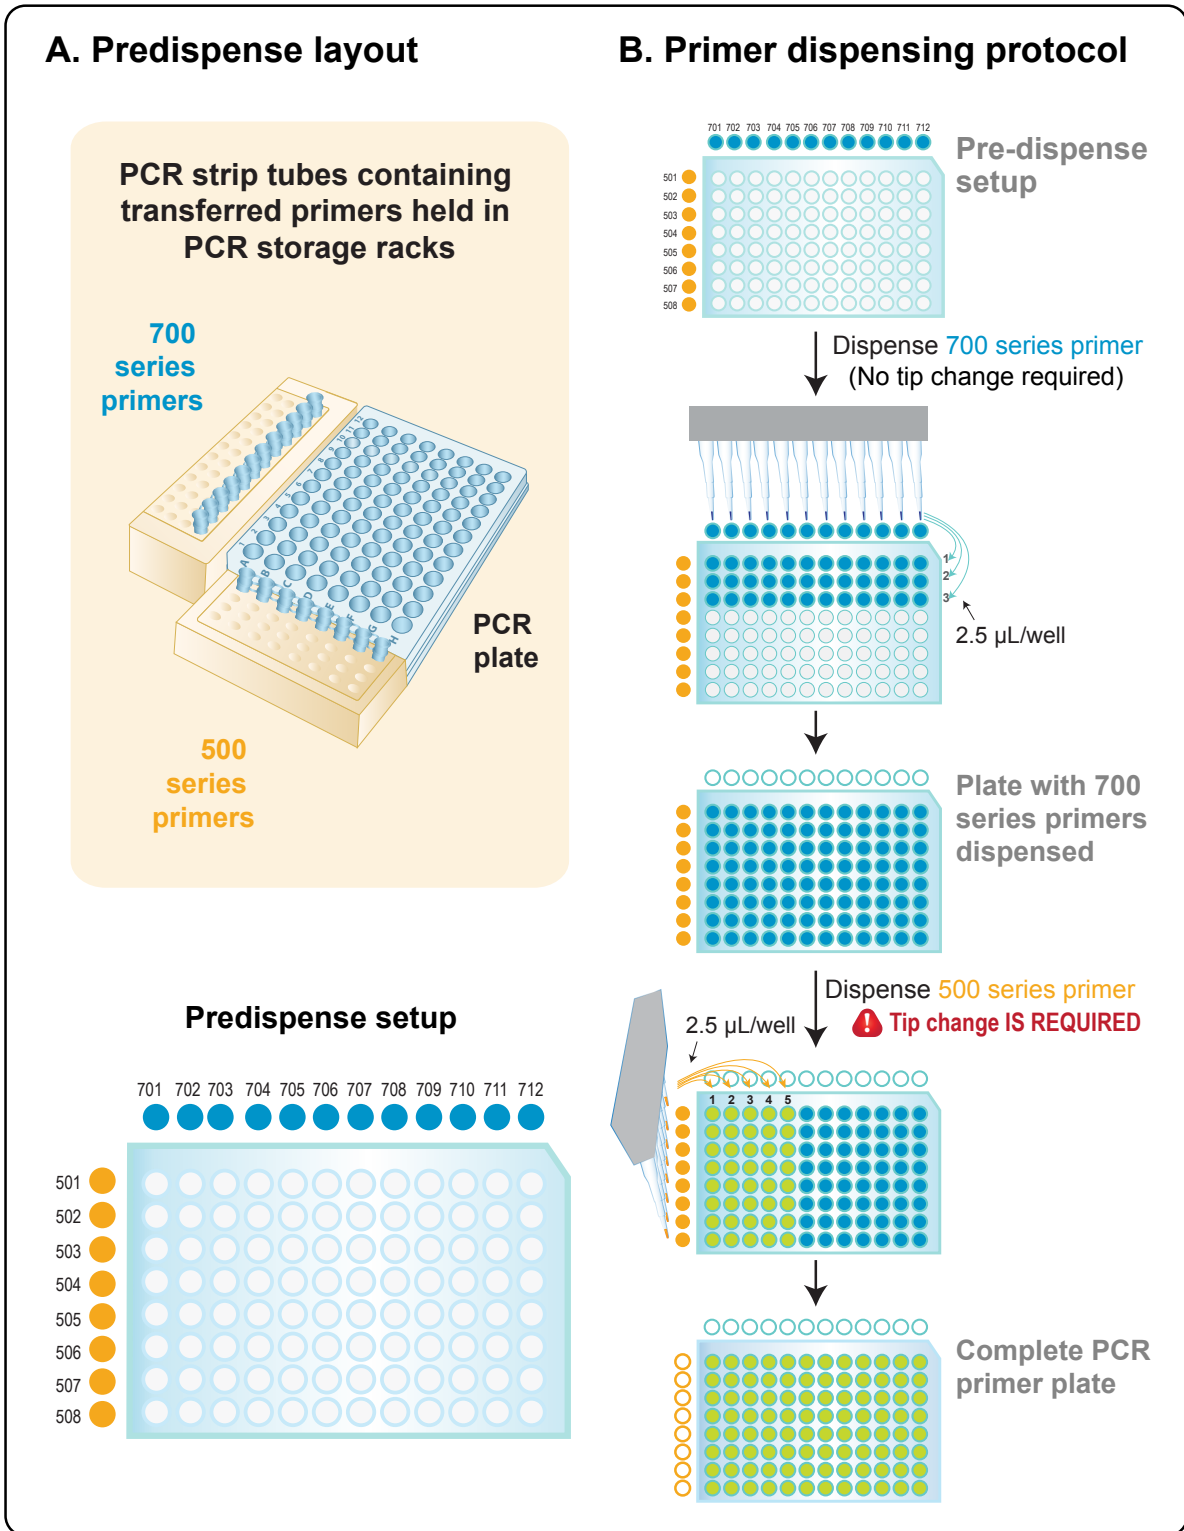

Figure 3: Plate and primer tube setup and recommended dispensing protocol.
- Figure 3 illustrates the recommended layout and dispensing process for aliquoting the 700 and 500 Series Primers into the 96-well PCR plate.
- Refer to Figure 3 below for an overview of 96-well PCR plate and primer tube setup** using the (12) 700 Series Primers and the (8) 500 Series Primers. We recommend using two PCR Tube Storage Racks to hold PCR strip tubes, – one to hold the (8) 501-508 Primers and another to hold the (12) 701-712 Primers. Place the PCR Tube Storage Rack containing the 500 Series Primers to the left of the 96-Well PCR Low Bind Plate and PCR Tube Storage Rack with the 700 Series Primers across the top of the 96-well PCR plate to aid in dispensing each set of primers across the 96-well PCR plate.
3. Arrange (12) 700 Series Primer tubes in the tube rack in numerical order. Remove cap from the first 700 Series Primer tube, and transfer entire volume from the tube to the first PCR tube. Transfer all 700 Series Primers from Primer tubes to the PCR tubes, processing one tube at a time. Place PCR tubes in PCR Tube Storage Rack as illustrated in Figure 3. **Note:** If using a custom primer order, be sure to record the arrangement used.
8. Place (8) 500 Series Primer tubes in the tube rack in numerical order. Remove cap from the first 500 Series Primer tube, and transfer entire volume from the tube to the first PCR tube. Transfer all 500 Series Primers from Primer tubes to the PCR tubes, processing one tube at a time. **Note:** If using a custom primer order, be sure to record the arrangement used.